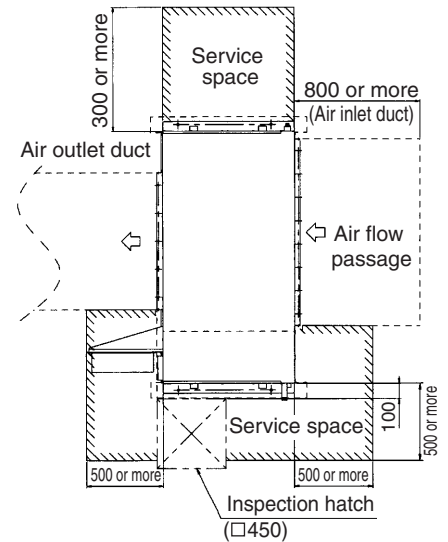

Fig. 2 [Unit:mm]
- Where sufficient clearance for maintenance and service can be ensured. (Refer to Fig. 2)